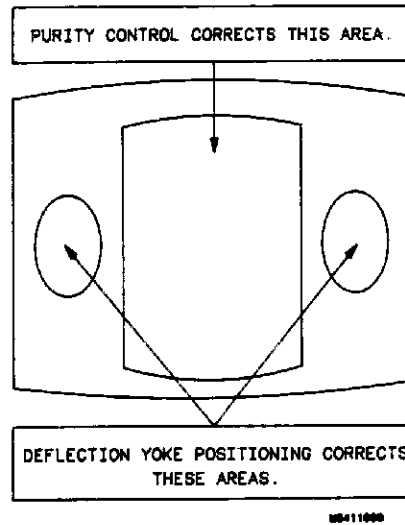

Figure 4-17. Landing and Purity Adjustment Guide.
10. If landing is not correct in step 9, repeat steps 6 through 9 for best compromise. See figure 4-17.